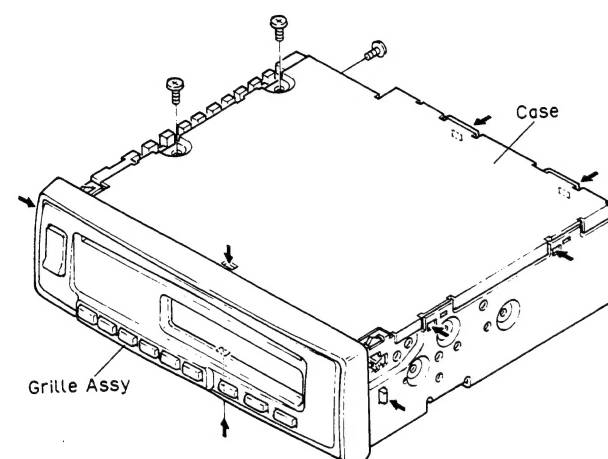

Fig. 9
1. Press the tabs at four locations indicated by arrows, and then pull out the grille assy. (Fig.9)